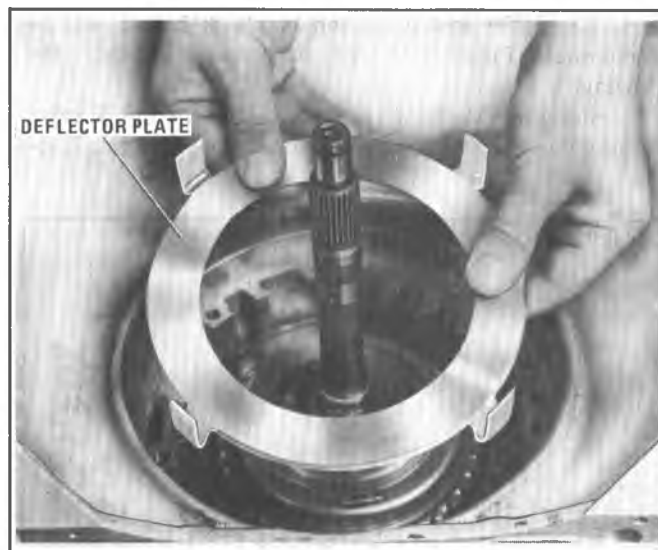

Figure 7A6-200 Installing Oil Deflector Plate
9. Install snap ring (Figure 7A6-199). Make sure composition clutch plates turn freely.